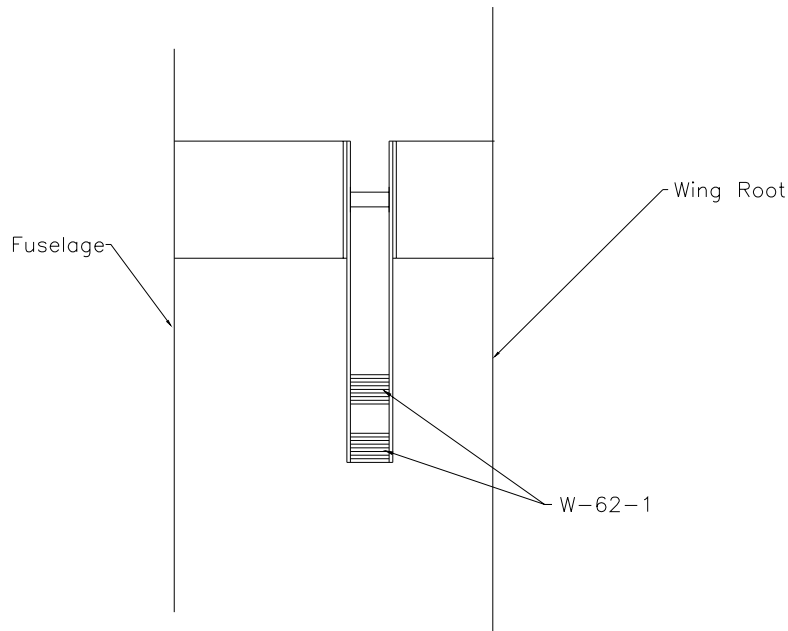

Figure 20.6.11
30) With torque tubes tightly on the inside end plugs, install spacers (W-62-1) between the wing horn and the fuselage horn. It may be necessary to sand the spacers. Figure 20.6.11.